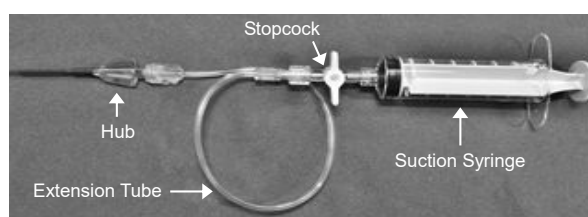

Figure 2: Installation of Thrombuster II and Syringe kit (without the core wire).
- c) Attach the Syringe kit to the hub of this catheter, as shown in Figure 2.